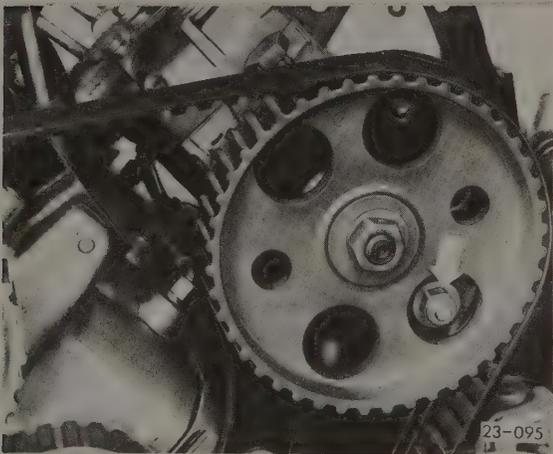

Fig. 5-22. Lower mounting plate bolt (arrow) accessible through hole in the injection pump sprocket.
6. If the dial indicator reading is out of specification, a timing adjustment is necessary. With the engine at TDC, slightly loosen the injection pump rear support bolt, shown earlier in Fig. 5-15, and the front mounting plate bolts as shown in Fig. 5-22. Rotate the pump, either clockwise or counterclockwise, until the dial indicator reading is within the adjusting specification tolerance.